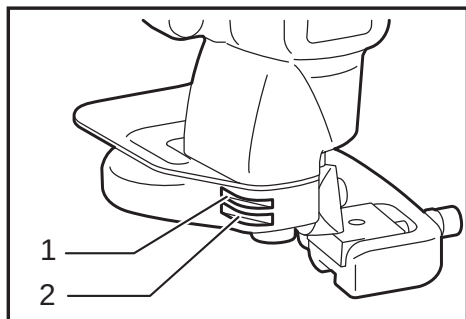

Fig.2
► Fig.2: 1. Gauge for stainless: 2.5 mm (3/32")